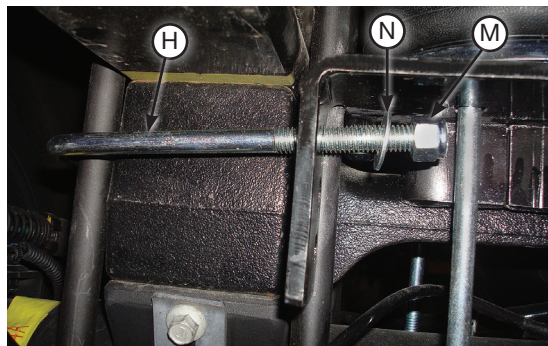

Fig. 17
2. Install the U-bolts (H) around the jounce bumper strike plate/spacer blocks and insert through the topmost holes in the lower bracket main plates (Fig. 17). Cap with the 3/8" flat washers (N) and 3/8"-16 nylon lock nuts (M). Snug bolts evenly, just enough to hold the lower bracket main plate flush against the stock U-bolts.